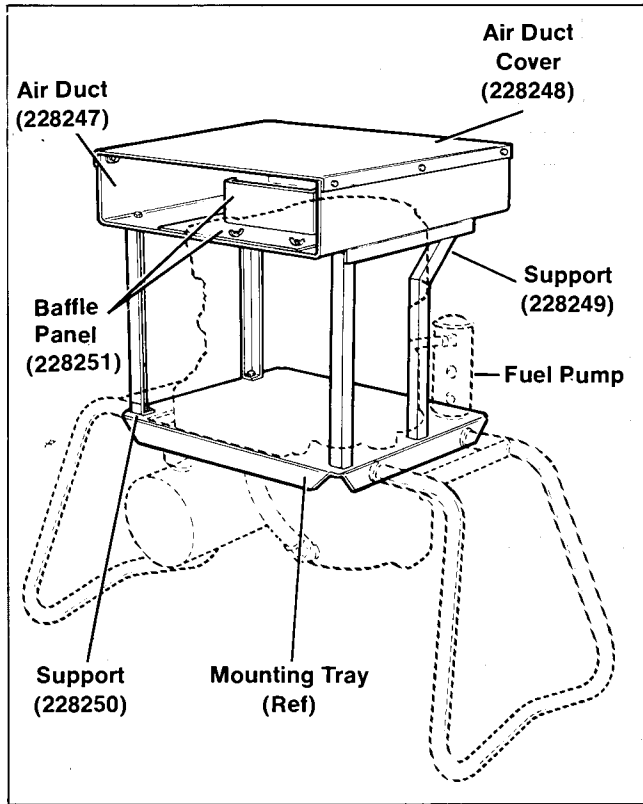

Figure 34. Bracket Position
2. Attach support brackets (228249 and 228250) to mounting tray using four screws (X-5-1), lock washers (X-20-1) and nuts (X-81-1). The offset bracket (with 45° bend) should be mounted adjacent to fuel pump, as shown in Figure 34.